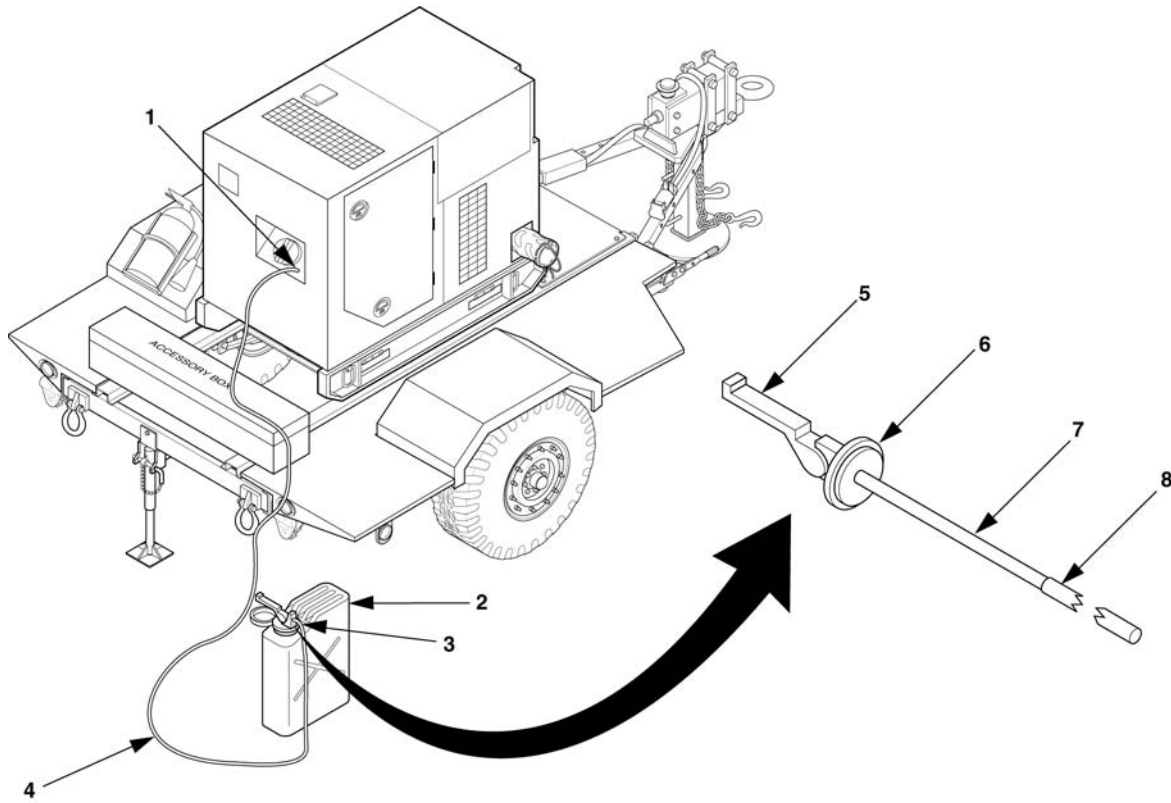

Figure 2-8. Auxiliary Fuel (Typical).
- a. Place the external fuel source (2, figure 2-8) several feet, but no more than 25 feet, away from the generator set.